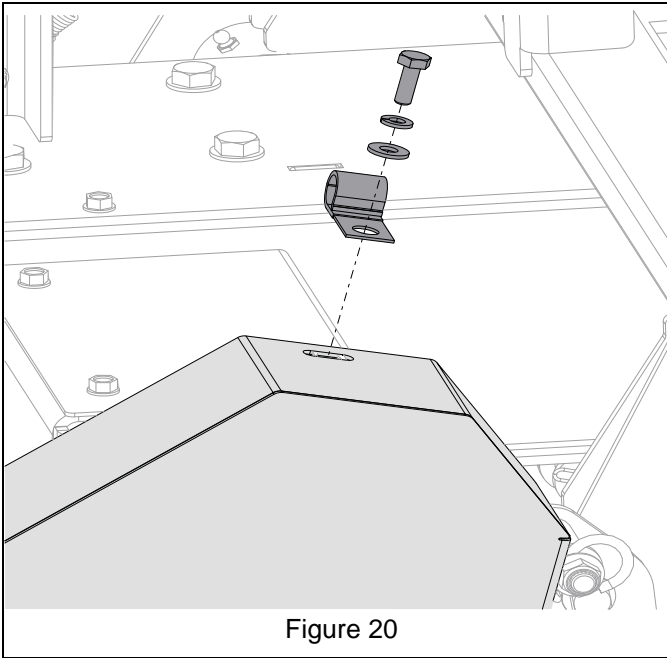

Figure 20
10. Route cable through p-clip and secure p-clip to belt shield with hardware removed earlier. See Figure 20.